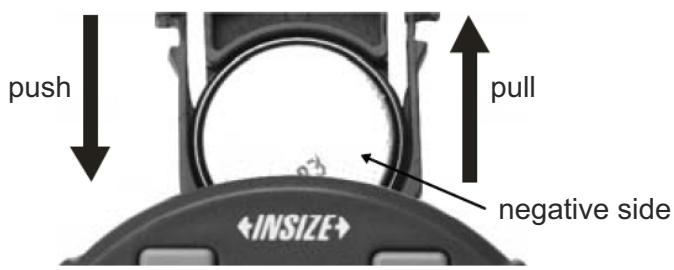

fig. 1
1. Installation and removal of the battery (CR2032), the negative side of the battery should face out (fig. 1).